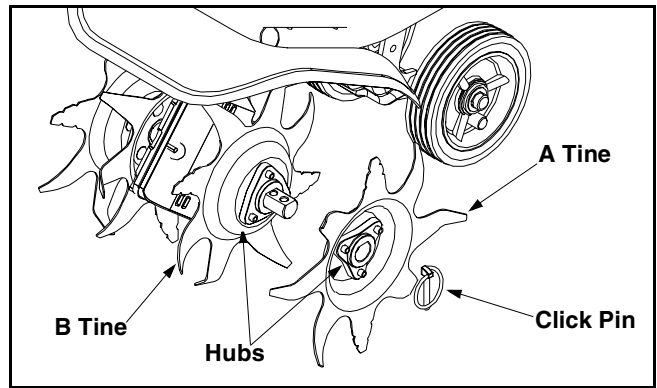

Figure 7
- Push the On/Off switch to Off (O) position to stop engine and tines and disconnect spark plug to avoid accidental starting.
- Slide new tines on with hubs facing out. The four tines are marked with letters A and B and an A and a B tine must be on the same side. See Figure 7.